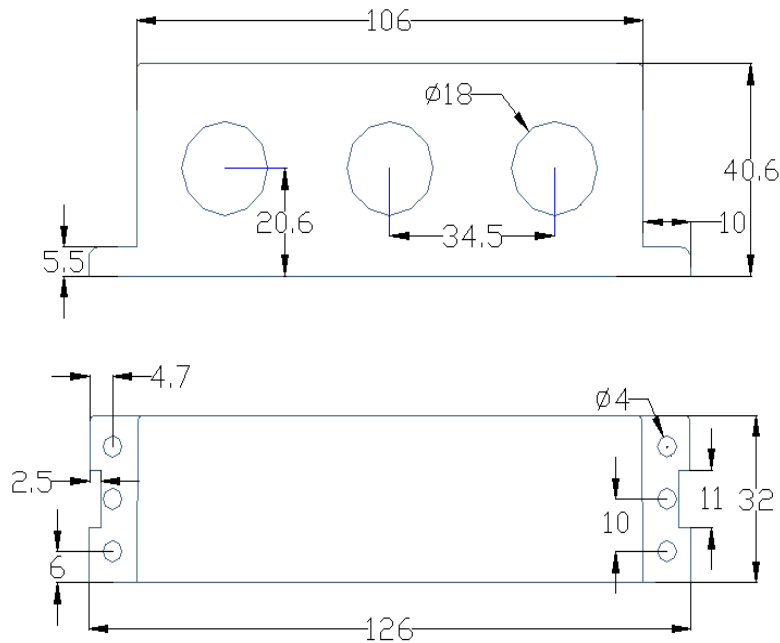

Fig. 5 External dimensions of current transformers with specifications below 100A
5.4 The external dimensions of current transformers of 100A and the following specifications are shown in FIG. 5 (unit: mm) :